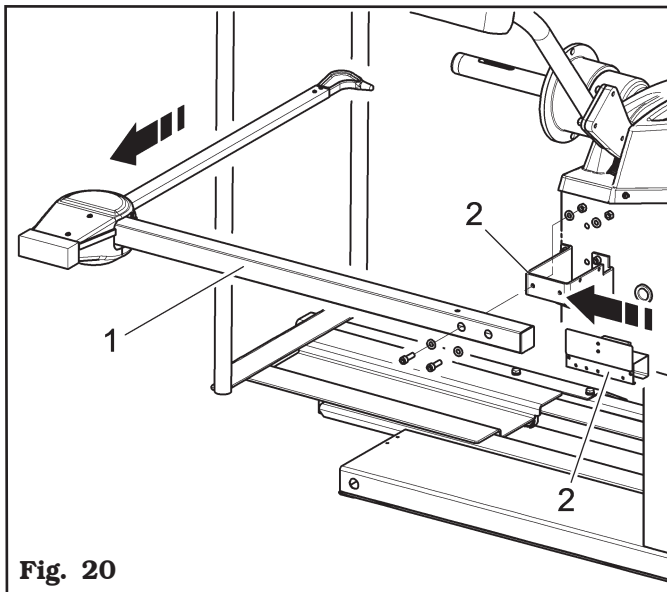

Fig. 20
1. Remove the external data gauge (**Fig. 20 ref. 1**) from the bracket (**Fig. 20 ref. 2**) unscrewing the corresponding screws and nuts.
2. Fit the electronic measuring device (**Fig. 20 ref. 3**) to the external data gauge, as shown in **Fig. 20**.